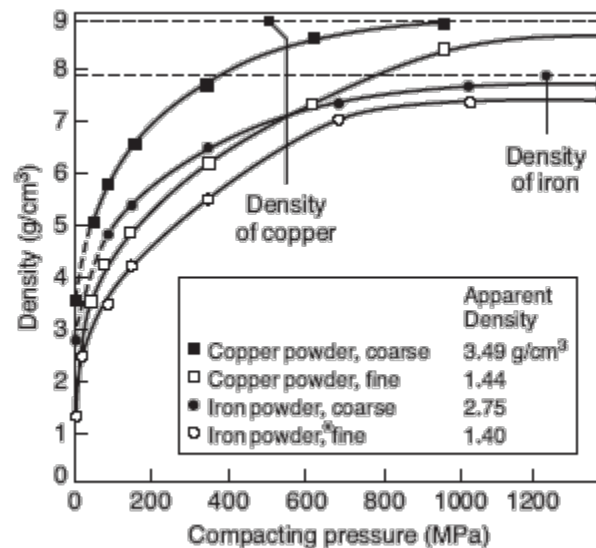

Figure Q5[d]
- [c] In order to make a solid cylindrical compact 20 mm in diameter and 10 mm high, coarse copper powder is compacted in a mechanical press at a pressure of 0.275 GPa. Figure Q5[d] shows the density of copper and iron powder compacts as a function of compacting pressure.